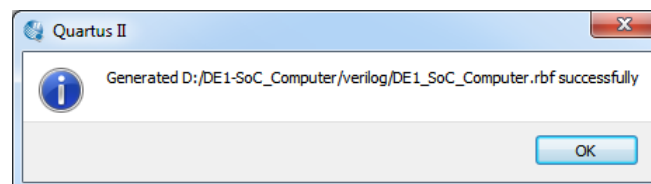

Figure 38. The .rbf file successfully generated.
7. We are now ready to generate the .rbf file. Click `Generate`. You should see the success message shown in Figure 38.